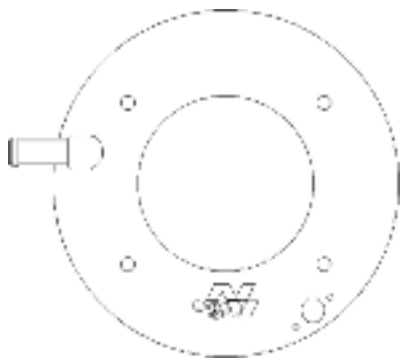

fig. 3
- 10) Carefully thread the supplied vent elbow into the die-cast filter adapter using teflon pipe-thread sealant. Do not over-tighten the elbow or the adapter might crack. (See fig. 3)